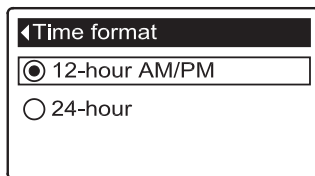

FIG. 50
1. From any of the rolling status screens, press the SELECT (O) button to display the **Main menu**.
3. Press the SELECT (O) button to display the User preferences menu.
5. Press the SELECT (O) button to display the Time format menu (See Figure 50).
6. If the desired time format already has a black dot next to it (See Figure 50), go to Step 7. Otherwise, press the DOWN (▼) or UP (▲) buttons to scroll to the other time format, then press SELECT (O) to choose it.
7. Press the SELECT (O) button. The display will go back to the User preferences menu.